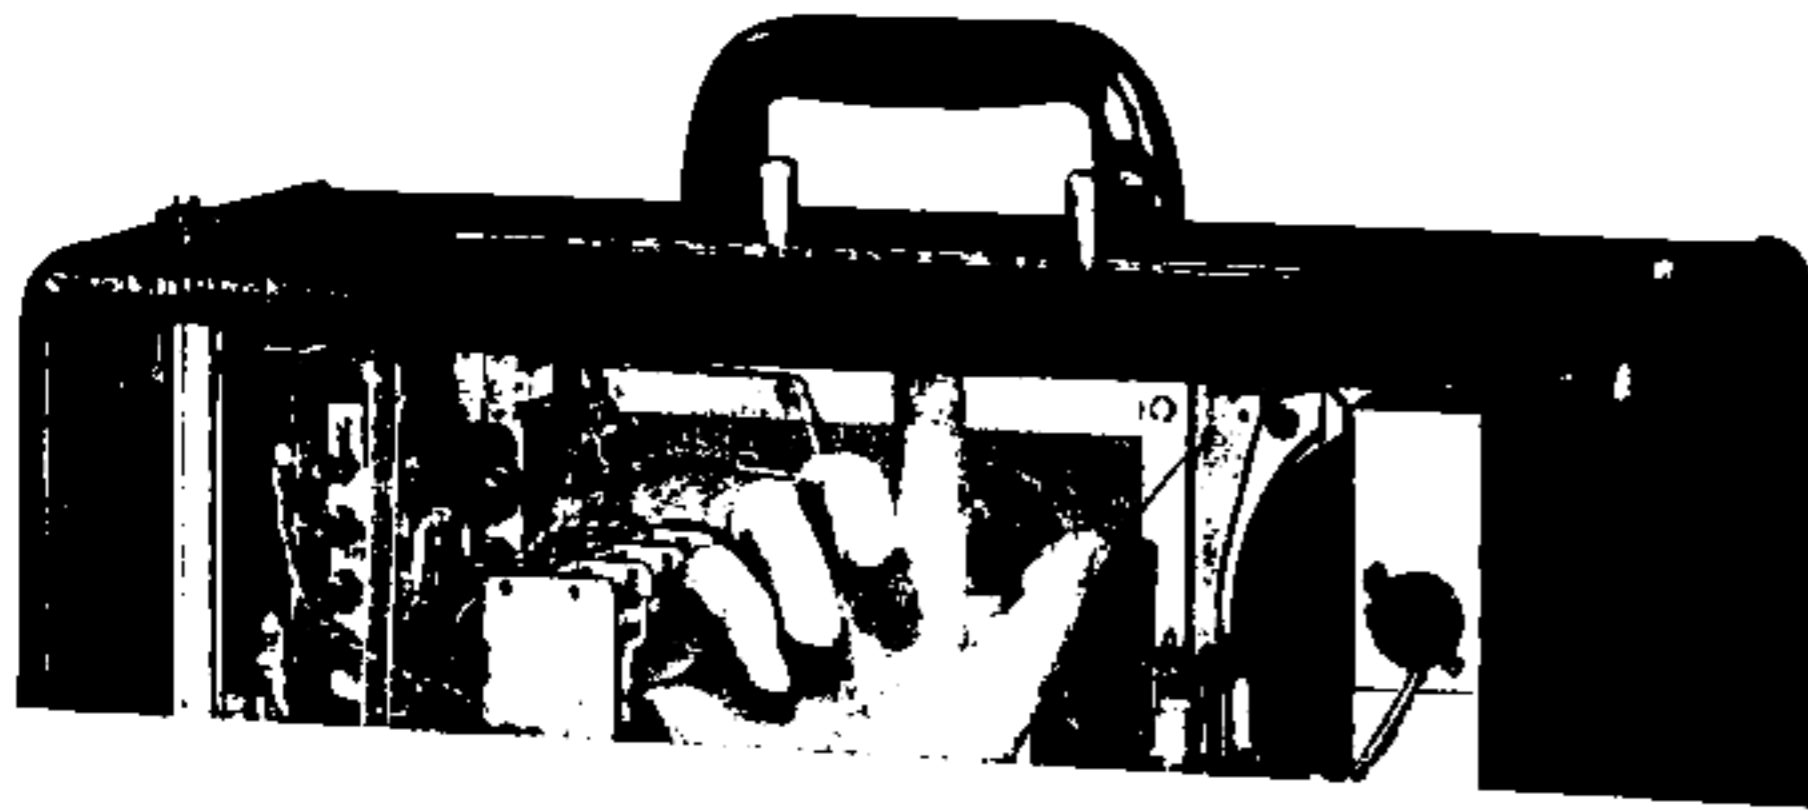

Figure 15—Press Up Thru Finger Hole to Remove Wavemagnet.
- A. In steel structures and vehicles, remove the Broadcast Wavemagnet by pressing up through the finger hole provided at the center under edge of the cabinet top. (See Fig. 15.)
2. Remove the Broadcast Wavemagnet by pressing up through the finger hole provided at the center under the edge of the cabinet top. (See Fig. 15.)